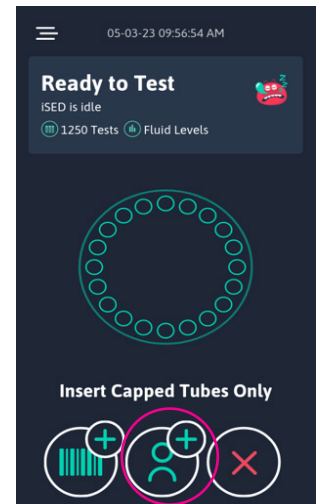

Figure 22
1. Select the “person with the plus sign” icon (Figure 22).